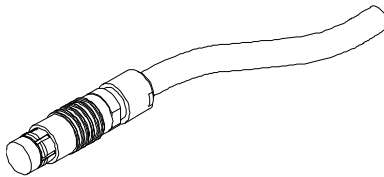

Figure L-2 The 4CH, 19-pin eddy current probe connector
- The first type is a 19-pin connector (see Figure L-2 on page 174) used in multiple-coil eddy current technology probes.